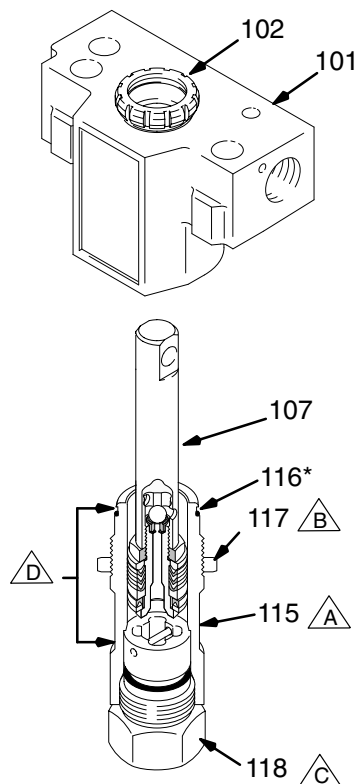
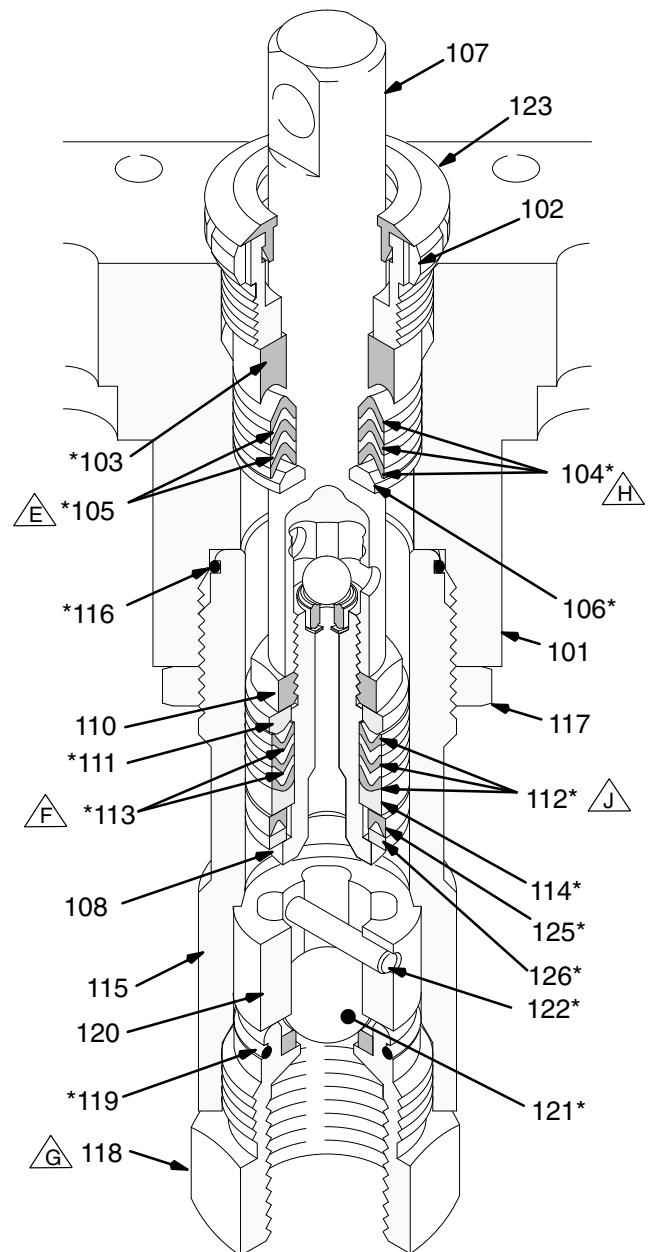

Fig. 24
Fig. 25
9. Stack these parts one at a time into the top of the manifold (101): the male gland (106*), alternately three plastic packings (104*) with two leather packings (105*), and then the female gland (103*). See Fig. 24.
10. Install the packing nut (102) and plug (124), but leave loose for now. See Fig. 24.
11. Place a new o-ring (116*) firmly in the cylinder groove. See Fig. 25.
12. Coat the piston rod and packings with oil. Carefully slide the assembly **INTO THE TOP OF THE CYLINDER (115)**. See Fig. 24.
13. Put the manifold in a vise. Fully thread the jam nut (117) onto the cylinder (115). Guide the rod/cylinder assembly down through the manifold (101). Screw the cylinder (115) into the manifold.
14. Place the ball guide (120), stop pin (122) and ball (121*) in the cylinder (115). Screw the intake valve into the cylinder and torque to 71 N.m. This will also properly torque the cylinder into the manifold. See Fig. 25.
15. Tighten the cylinder jam nut (117) to 98 N.m. See Fig. 24.
- Torque cylinder (115) into manifold (101) to 71 N.m
- Torque jam nut (117) 98 N.m
- Torque intake valve (118) into cylinder (115) to 71 N.m